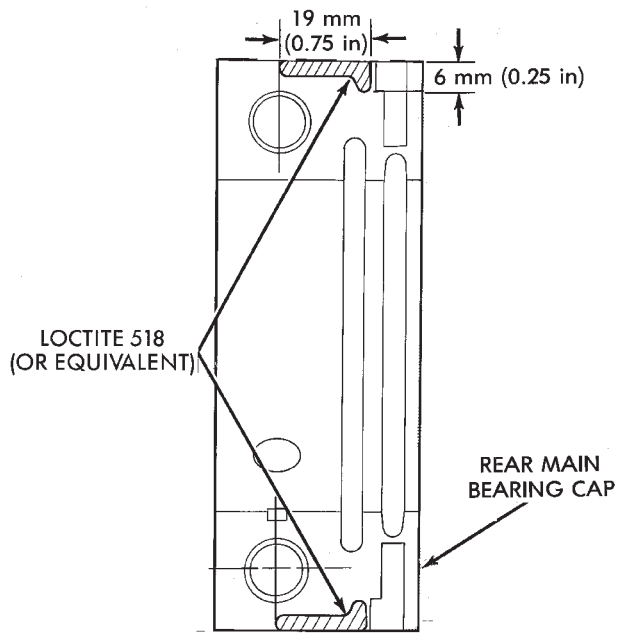

Fig. 60 Location of Loctite 518 (or equivalent)
- (7) Position the lower seal into the bearing cap recess and seat it firmly. Be sure the seal is flush with the cylinder block pan rail.
- (8) Apply Loctite 518, or equivalent on the rear bearing cap (Fig. 60). The bead should be 3 mm (0.125 in) thick. DO NOT apply Loctite 518, or equivalent to the lip of the seal.
- (9) Install the rear main bearing cap. DO NOT strike the cap more than twice for proper engagement.
- (10) Tighten all main bearing bolts to 108 N·m (80 ft. lbs.) torque.
- (11) Install the main bearing cap brace. Tighten nuts to 47 N·m (35 ft. lbs.).
- (12) Install the oil pan gasket and oil pan. Tighten 1/4 - 20 screws to 14 N·m (120 in. lbs.). Tighten 5/16 - 18 screws to 18 N·m (156 in. lbs.).
- (13) Install the engine flywheel or converter drive plate. Tighten bolts to 142 N·m (105 ft. lbs.).